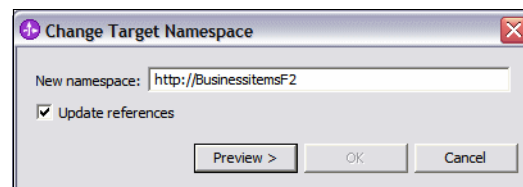

Figure 16-5 Change namespace
- ▶ Enter `http://BusinessItemsF2` as the new value (Figure 16-5).